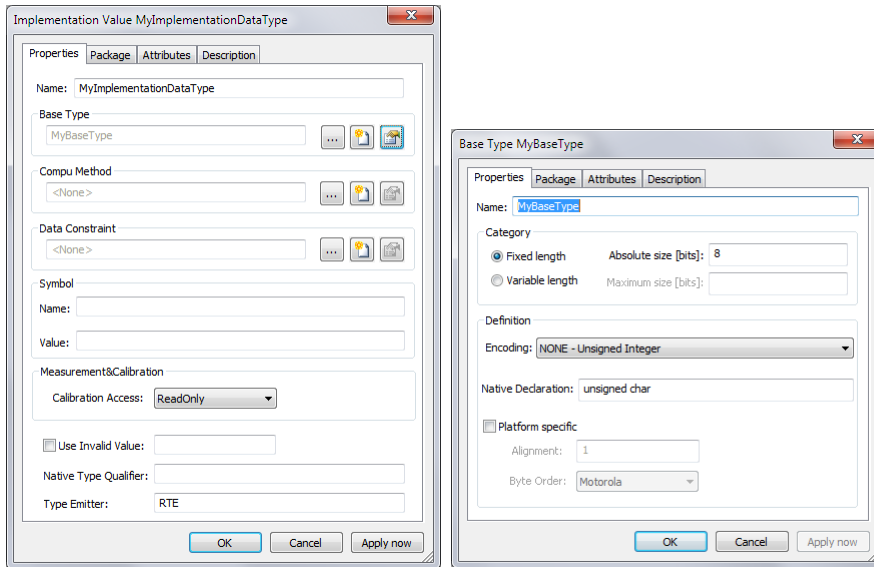

Figure 3-13 Native declaration: valid C expression
- BaseType with C native declaration: it is possible to generate the platform specific definition of an implementation data type using the native declaration field. In the provided example (see Figure 3-13), the following will be generated: